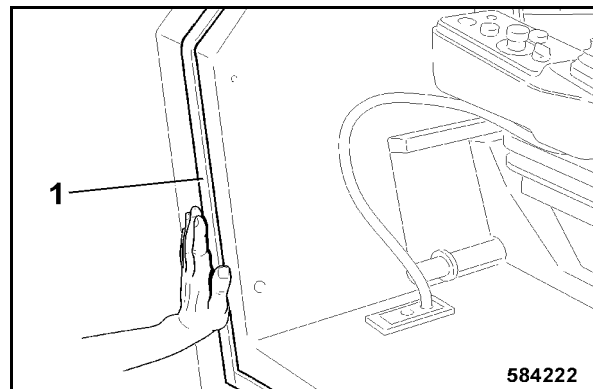

Fig. 202
- Stick the supplied sealing tape 1 (Fig. 202) along the edge of the operator's stand.